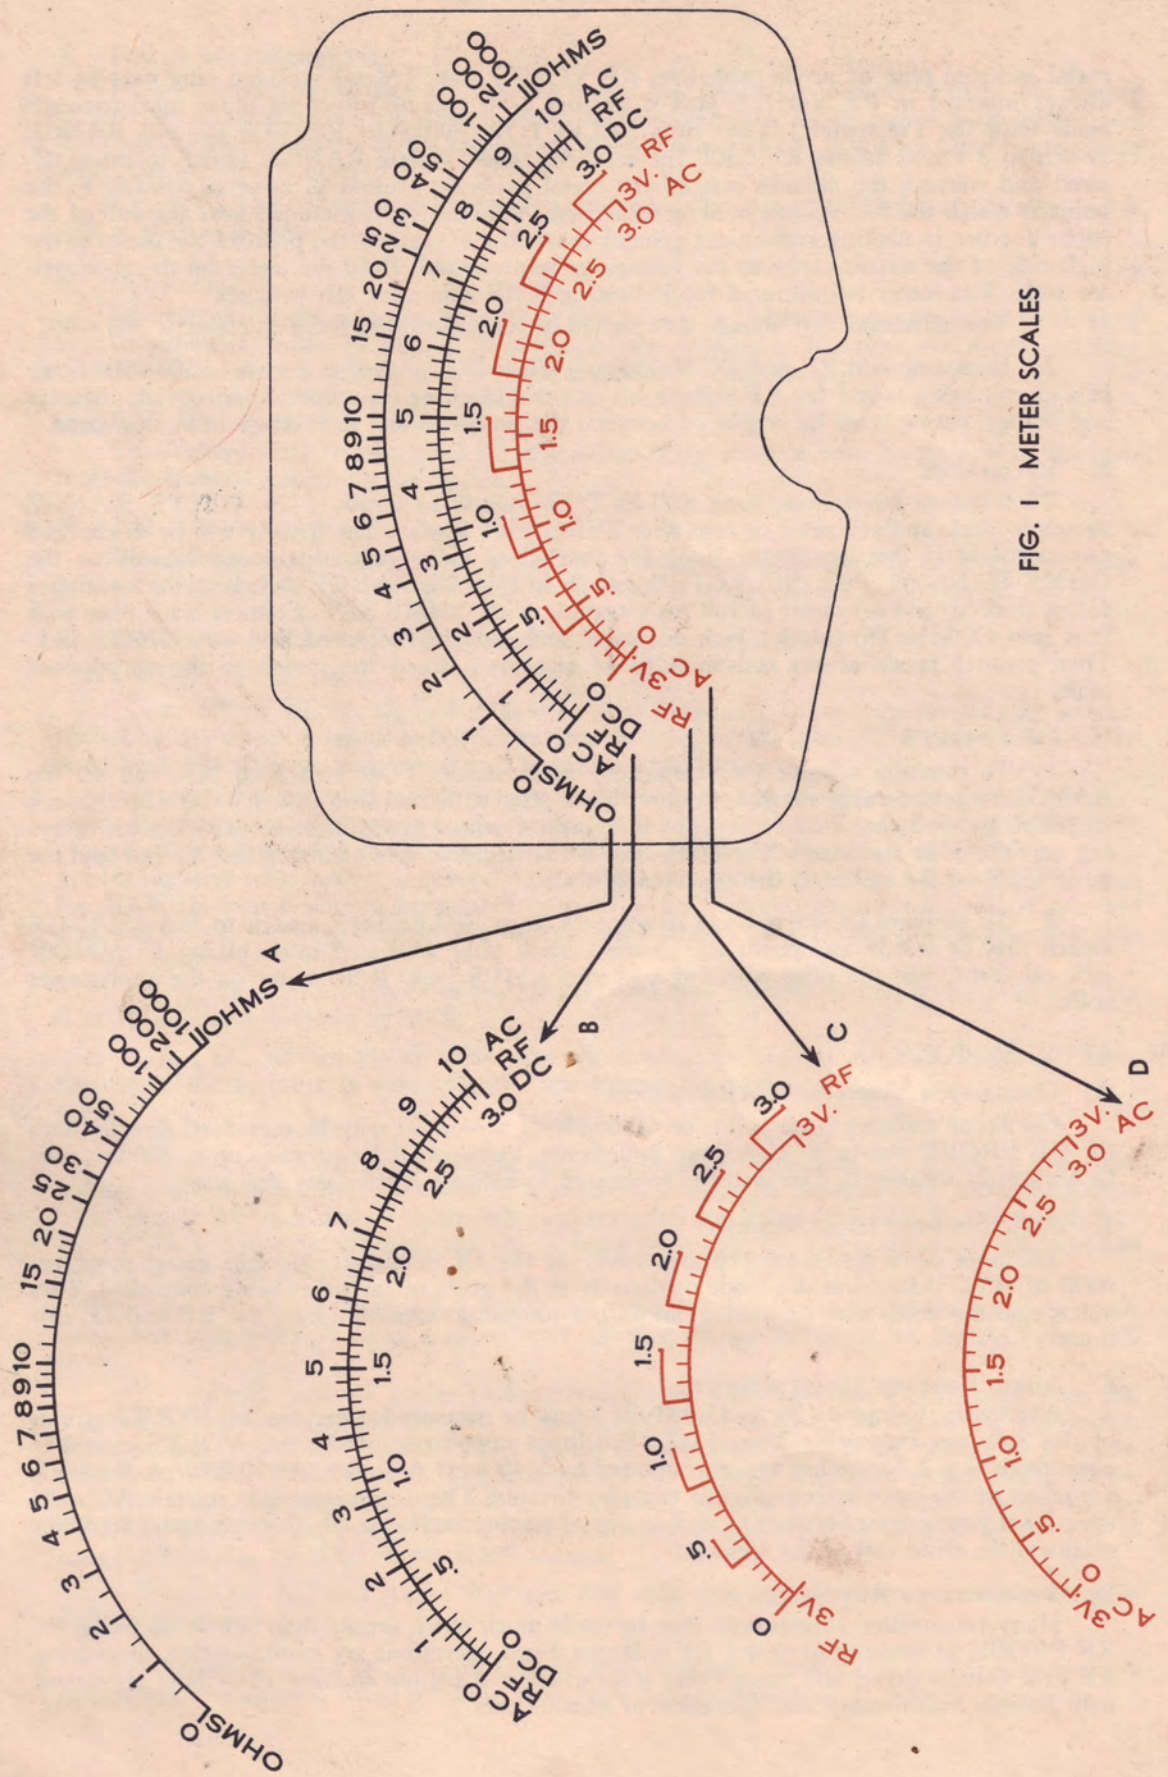

FIG. 1 METER SCALES
3. Scales—There are five scales on the meter (for references, see Fig. 1). Resistances are read on scale "A." All DC voltages and currents are read on scales shown as "B." AC voltages to 3 v are read on scale "D"; above 3 volts, AC voltages are read on scales shown as "B." RF voltages to 3 v are read on scale "C"; above 3 volts, RF voltages are read on scales shown as "B."